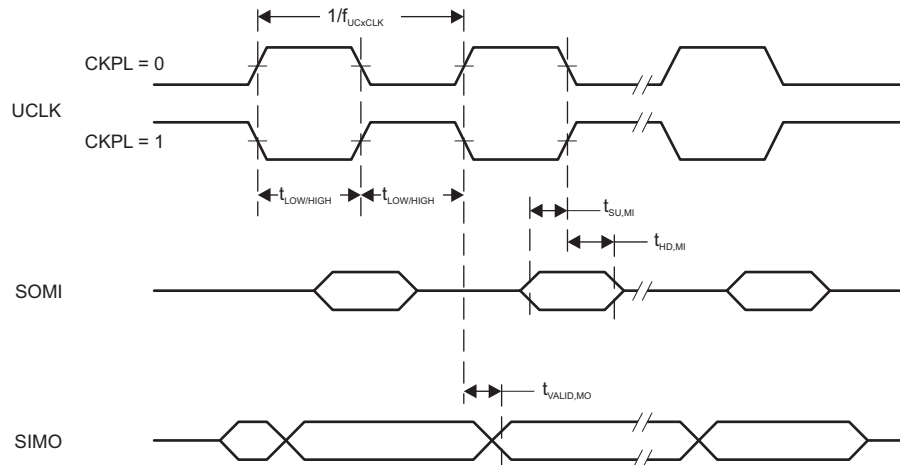
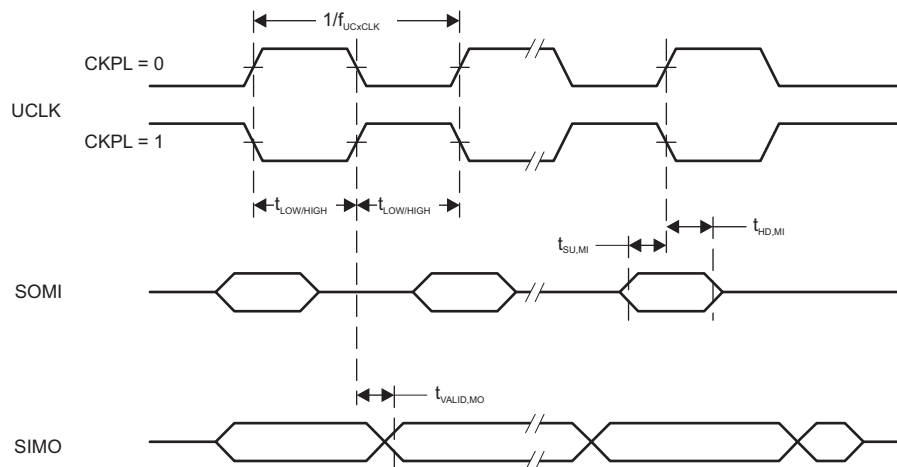

Figure 5-11. SPI Master Mode, CKPH = 0
Figure 5-12. SPI Master Mode, CKPH = 1
- (2) Specifies the time to drive the next valid data to the SIMO output after the output changing UCLK clock edge. See the timing diagrams in Figure 5-11 and Figure 5-12.
- (3) Specifies how long data on the SIMO output is valid after the output changing UCLK clock edge. Negative values indicate that the data on the SIMO output can become invalid before the output changing clock edge observed on UCLK. See the timing diagrams in Figure 5-11 and Figure 5-12.